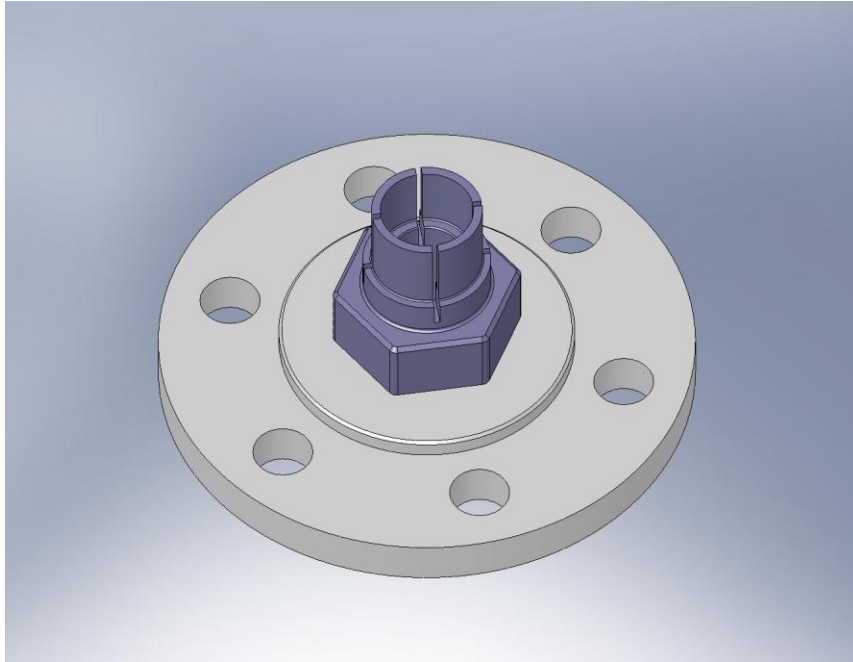

Figure 3.3. Flexure Mount in Flexure Lower Plate. Relative angle between these parts is not important.
- Insert **Flexure Mount** (D071103) through bottom of **Flexure Lower Plate** (D071105), as shown in Figure 3.3.